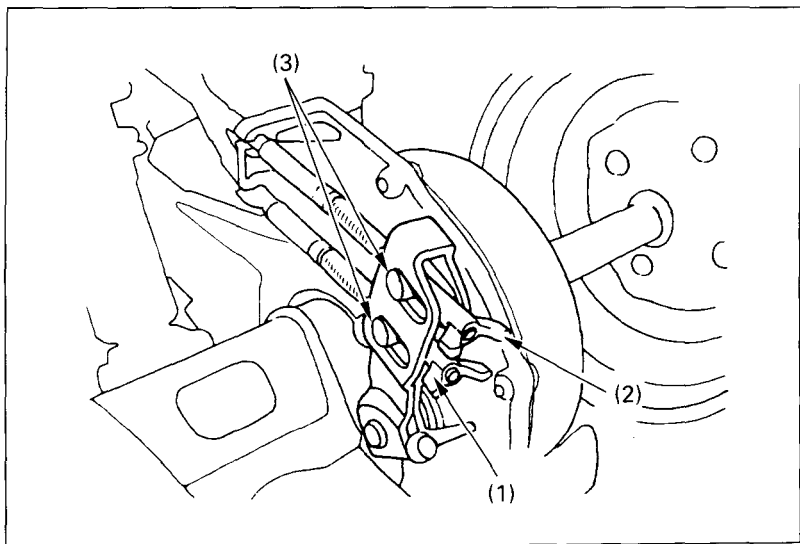

Fig. 4-26
(1) Rear brake pedal
To adjust the free play, turn the brake pedal adjusting nut (Fig. 4-26), located on the brake operating rod at the rear of the frame. Make sure the cut-out on the adjusting nut is properly seated on the brake arm pin (3).
To adjust the free play, turn the brake lever adjusting nut (Fig. 4-26), located on the brake operating rod at the rear of the frame. Make sure the cut-out on the adjusting nut is properly seated on the brake arm pin (3).